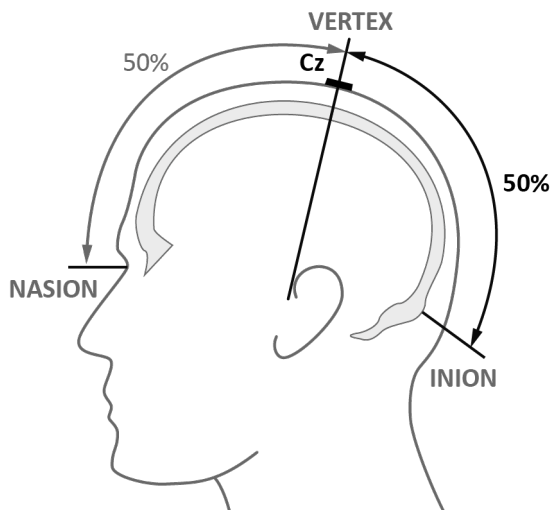

Fig. 30. Cz.
13. Measure distance from the nasion to inion (the lump on the back of the head), and mark a small line at the halfway point. Measure distance between the external auditory meatuses and mark the point at which it crosses your fist mark. This is Cz or Vertex (Fig. 30).